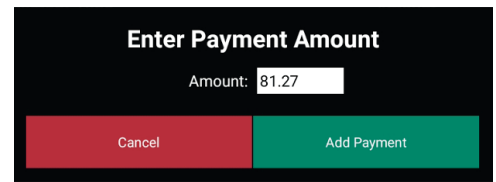

Figure 61
3. Tap ADD PAYMENT (Figure 61).